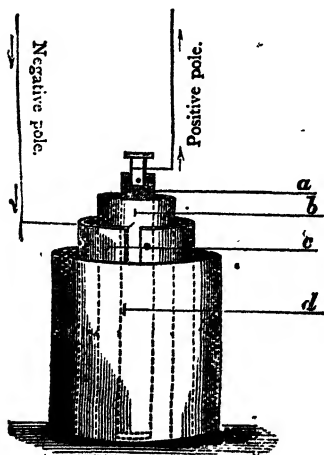

FIG. 22.
These terms are conflicting, Professor Faraday has therefore introduced the terms *anode* and *cathode*—the former representing the positive pole, the latter the negative—(the words mean, "the way up" and "the way down")—but you will generally find that positive and negative poles are most used (Fig. 22).
The accompanying sketch (Fig. 22), showing an elevation of a Bunsen carbon battery, will place the nomenclature of the various parts of a battery beyond doubt. Make yourself perfectly familiar with these terms, and you will save yourself a great deal of trouble, and be enabled at once to comprehend the manner of carrying out experiments which otherwise you might find a difficulty in grasping.
**23rd Experiment.**—Mr. Groves has rendered his name very celebrated for his experiments of the discharges in rarefied media, especially the peculiar effect of *stratification* in the globe experimented with before (Fig. 22). Exhaust it well and introduce some vapour of naphtha; connect the secondary wires: the discharge will now be stratified, and not in a stream as before.